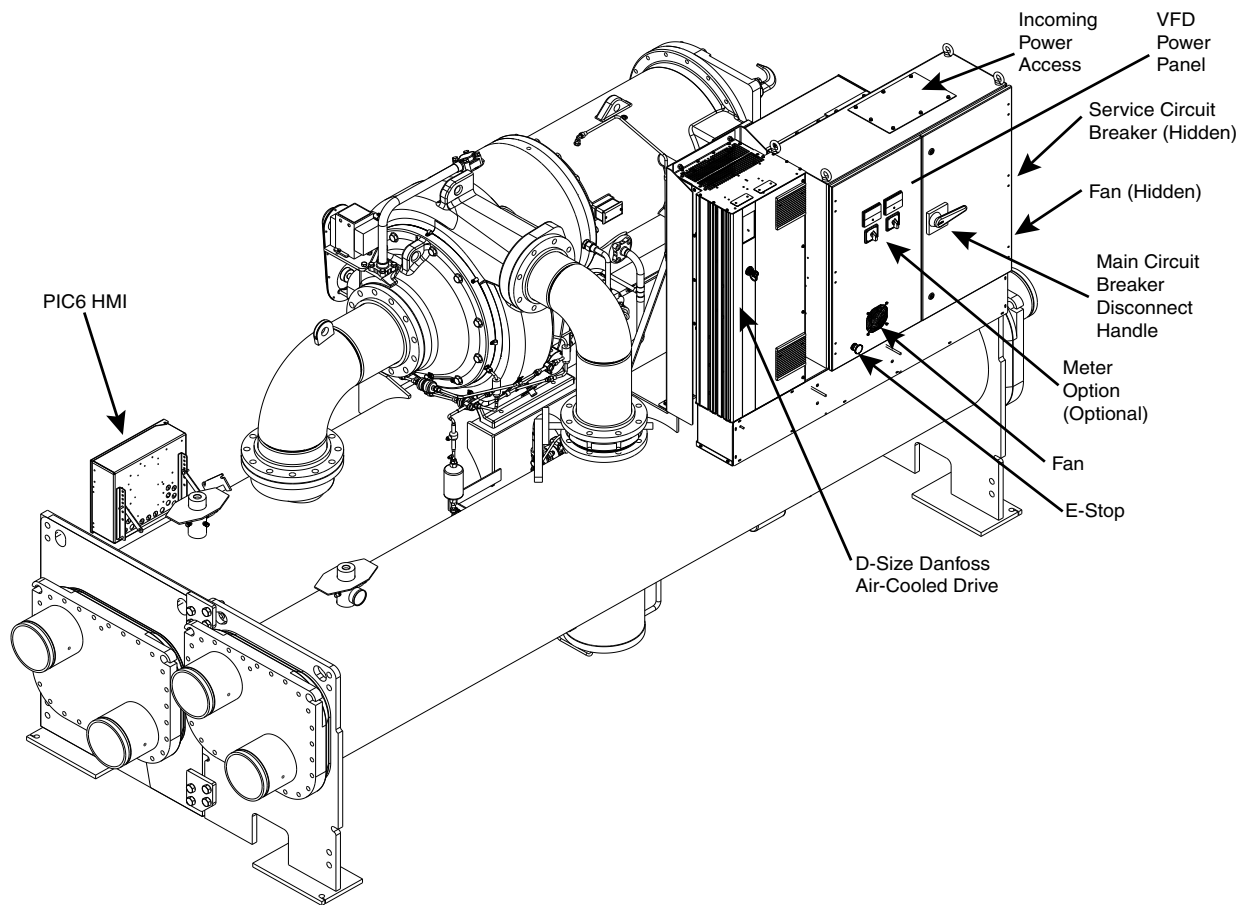
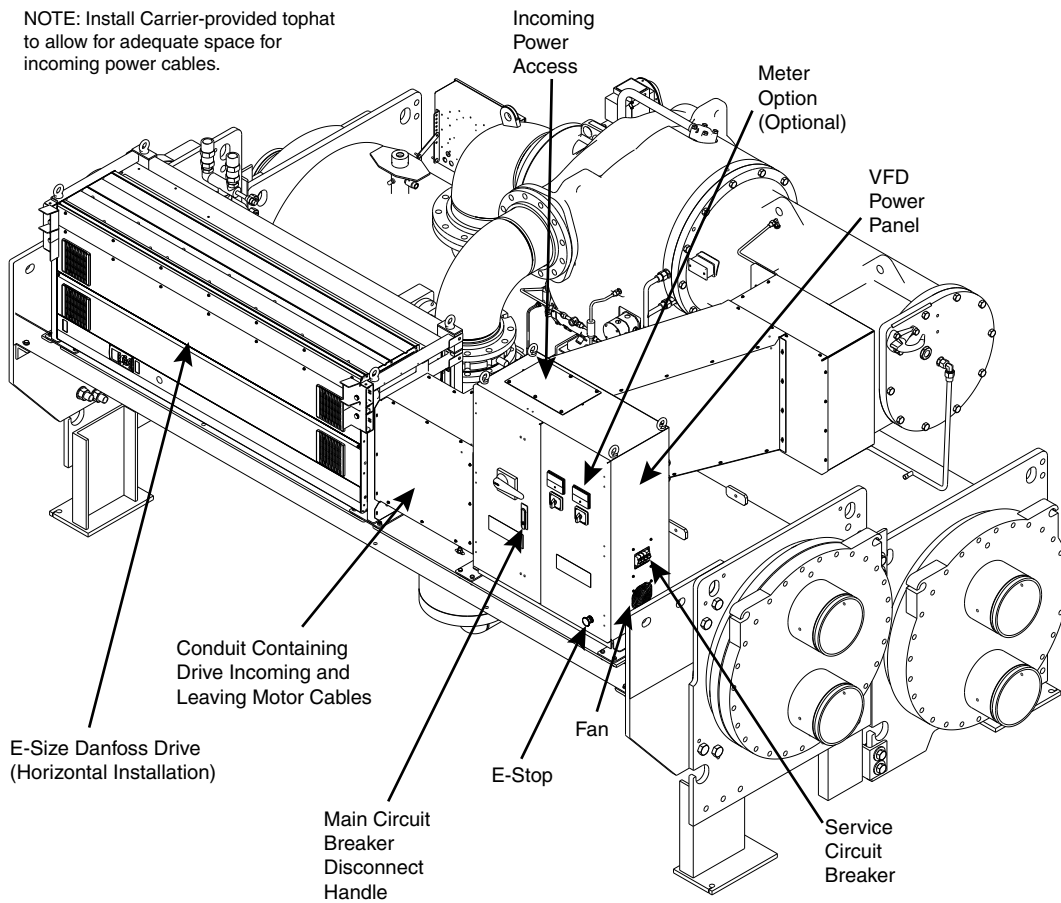
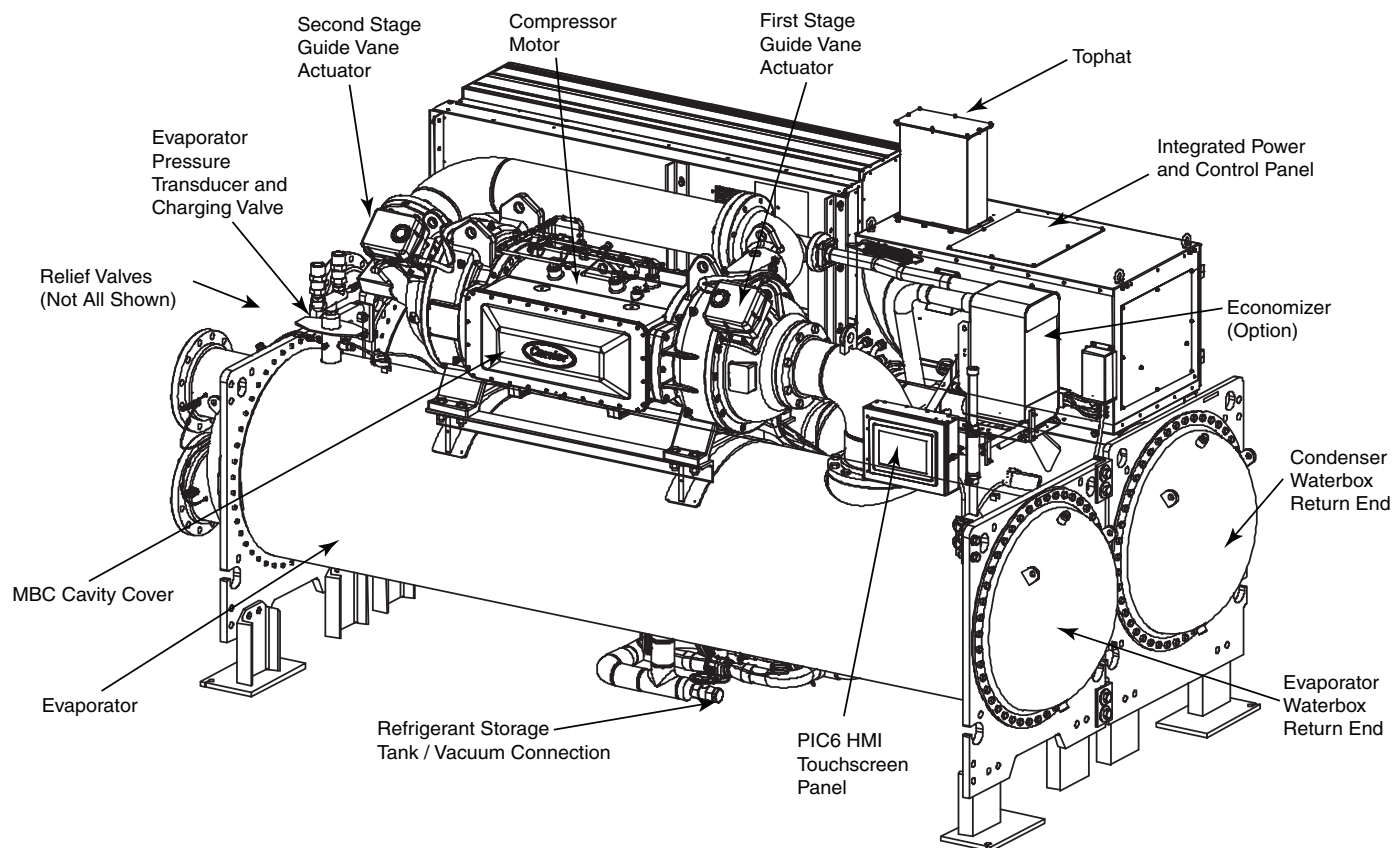
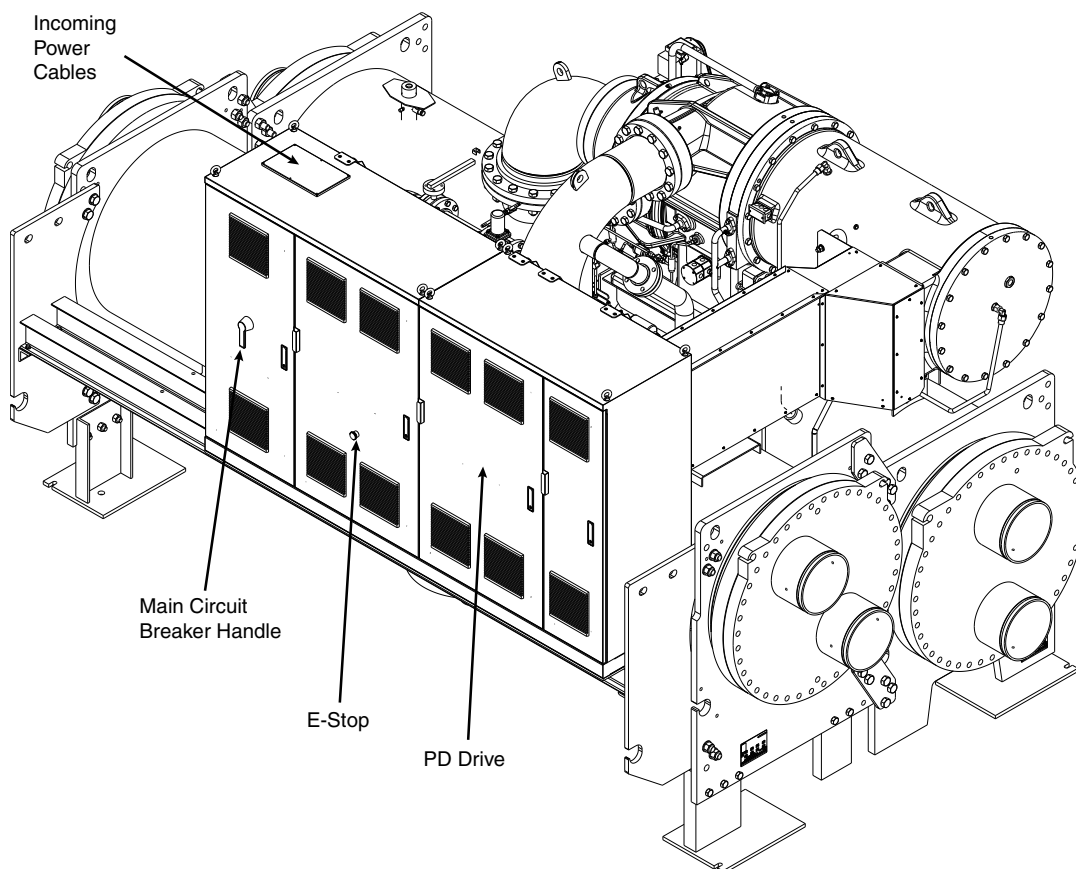

Fig. 3 — D Size Drive — 19XRV
Fig. 4 — E Size Drive — 19XRV
Fig. 5 — D/E Size Drive — 19MV
Fig. 6 — Size PD Danfoss Drive (Integrated VFD and VFD Power Panel) — 19XR
The Carrier FC-102 Danfoss product offering consists of three main configurations: D size, E size, and D size parallel drive (PD) modules. See details for the D size drive in Fig. 3, for the E size drive in Fig. 4, for 19MV size D/E drives see Fig. 5, and for the D size parallel drive modules in Fig. 6. The product range covers a drive range of 200 to 1000 kW. When any work or troubleshooting is required, it is critical to determine the type of drive since their design layouts vary. This can be done by locating the Carrier VFD label located on the outside of the drive or the Danfoss type code on the Danfoss VFD nameplate and matching up the appropriate VFD Power Rating in Table 2 and 3 or Table 4.